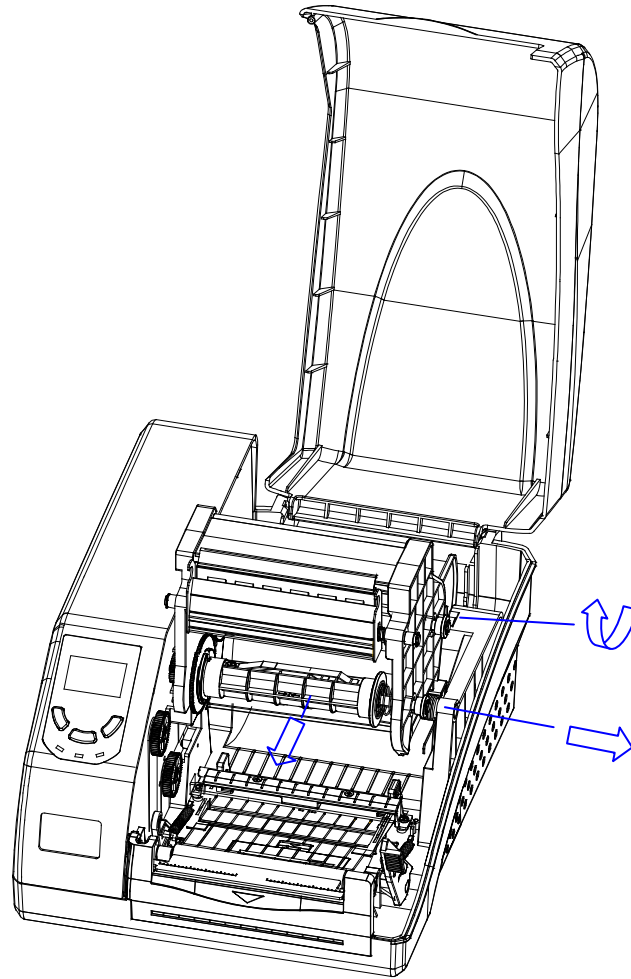

Figure 5-2
2. Lift the Printhead Module to expose the Ribbon Supply Spindle (see Figure 5-2).